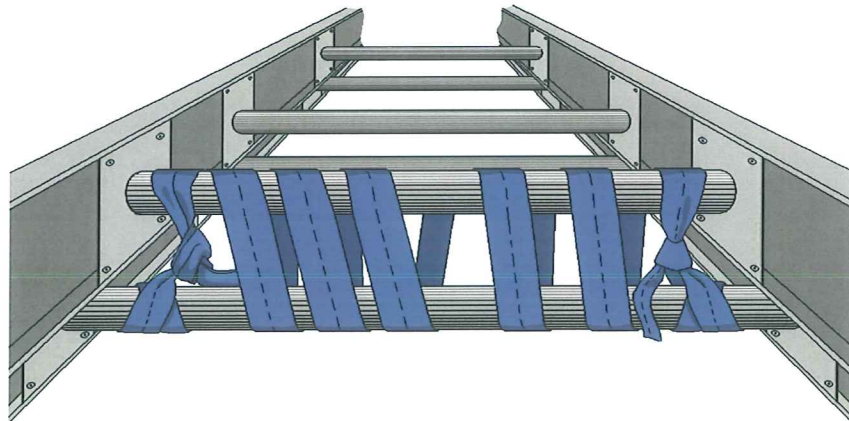

Figure 15-15: Lash Fly to the Bed of the Extension Ladder
- Tie off the halyard if the ladder is extended and or use webbing to secure. (Figure 15-15)